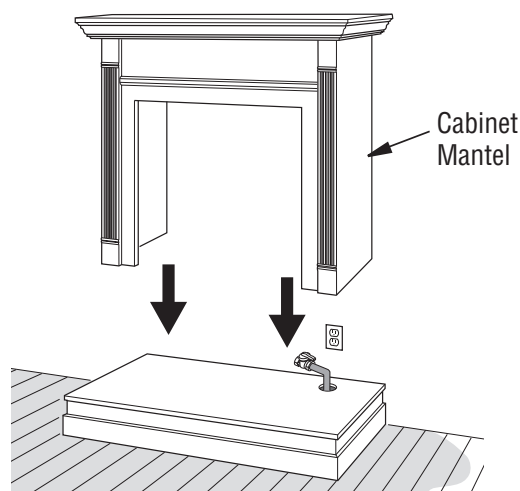

Figure 10 - Installing Cabinet Mantel
6. Center cabinet mantel on hearth base (see **Figure 10**). Make sure mantel is flush against wall.